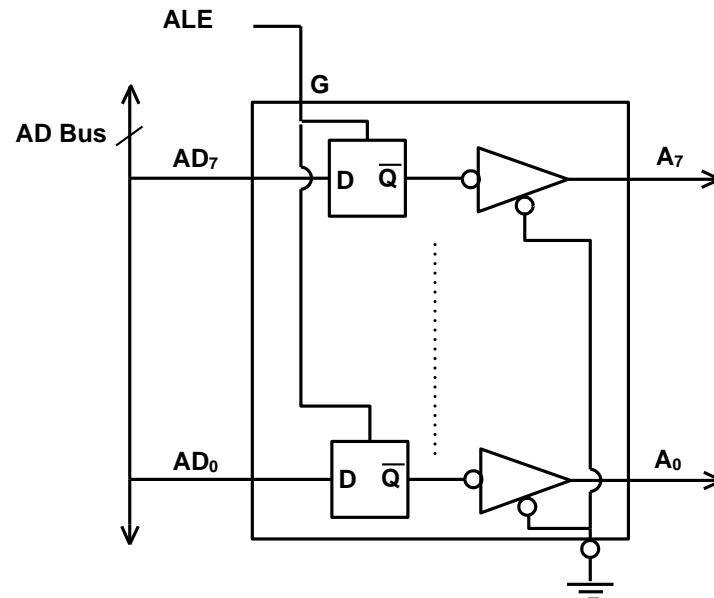

Fig.3.3a Latching of Lower Order Address in External Latch
Fig.3.3a shows a schematic that uses a latch and the ALE signal to de multiplex the bus. The bus AD_7-AD_0 is connected as the input to the latch 74LS373. The ALE signal is connected to the enable (G) pin of the latch, and the output control (OC) signal of the latch is grounded. When ALE goes high during the T_1 state of a